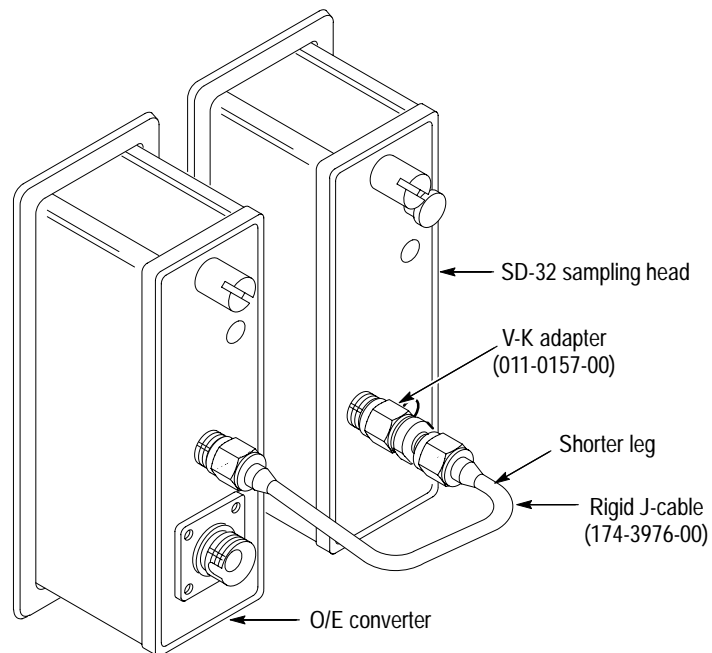

Figure 3: Using the rigid connector and V-K adapter (SD-32 sampling head only)
- SD-32 (requires a V-K adapter and rigid J-cable, see Figure 3)
- b. On the SD-32 sampling head, use the rigid connector and install the shorter leg of the connector on the sampling head with a V–K adapter. See Figure 3. (The V–K adapter is a standard accessory of the SD-32. If you do not have a V–K adapter, refer to the list of optional accessories at the end of this manual.)